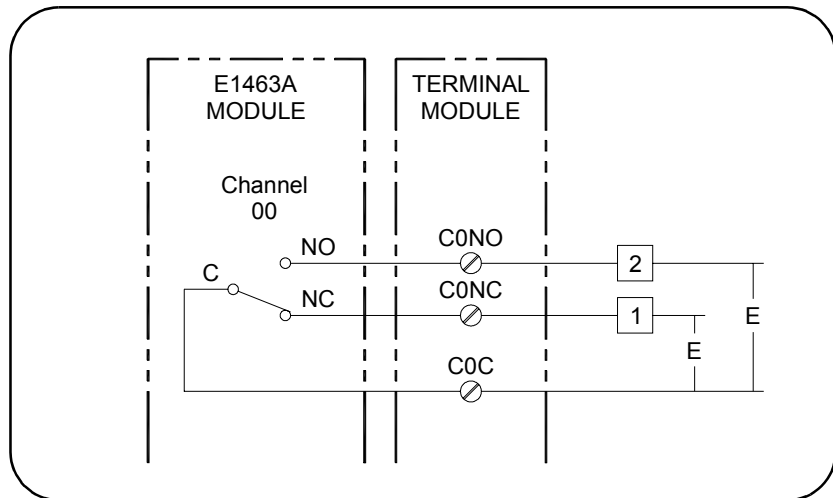

Figure 2-1. Example: Voltage Switching
This example closes channel 00 of a Form C switch module to switch the load voltage (E) from load 1 to load 2. When the channel relay is open, the load voltage is applied to load 1. When the relay is closed, the voltage is applied to load 2. See Figure 2-1 for typical user connections. The program shows how to close channel 00 of the E463A Form C Switch. To open channel 00, use OPEN (@100).